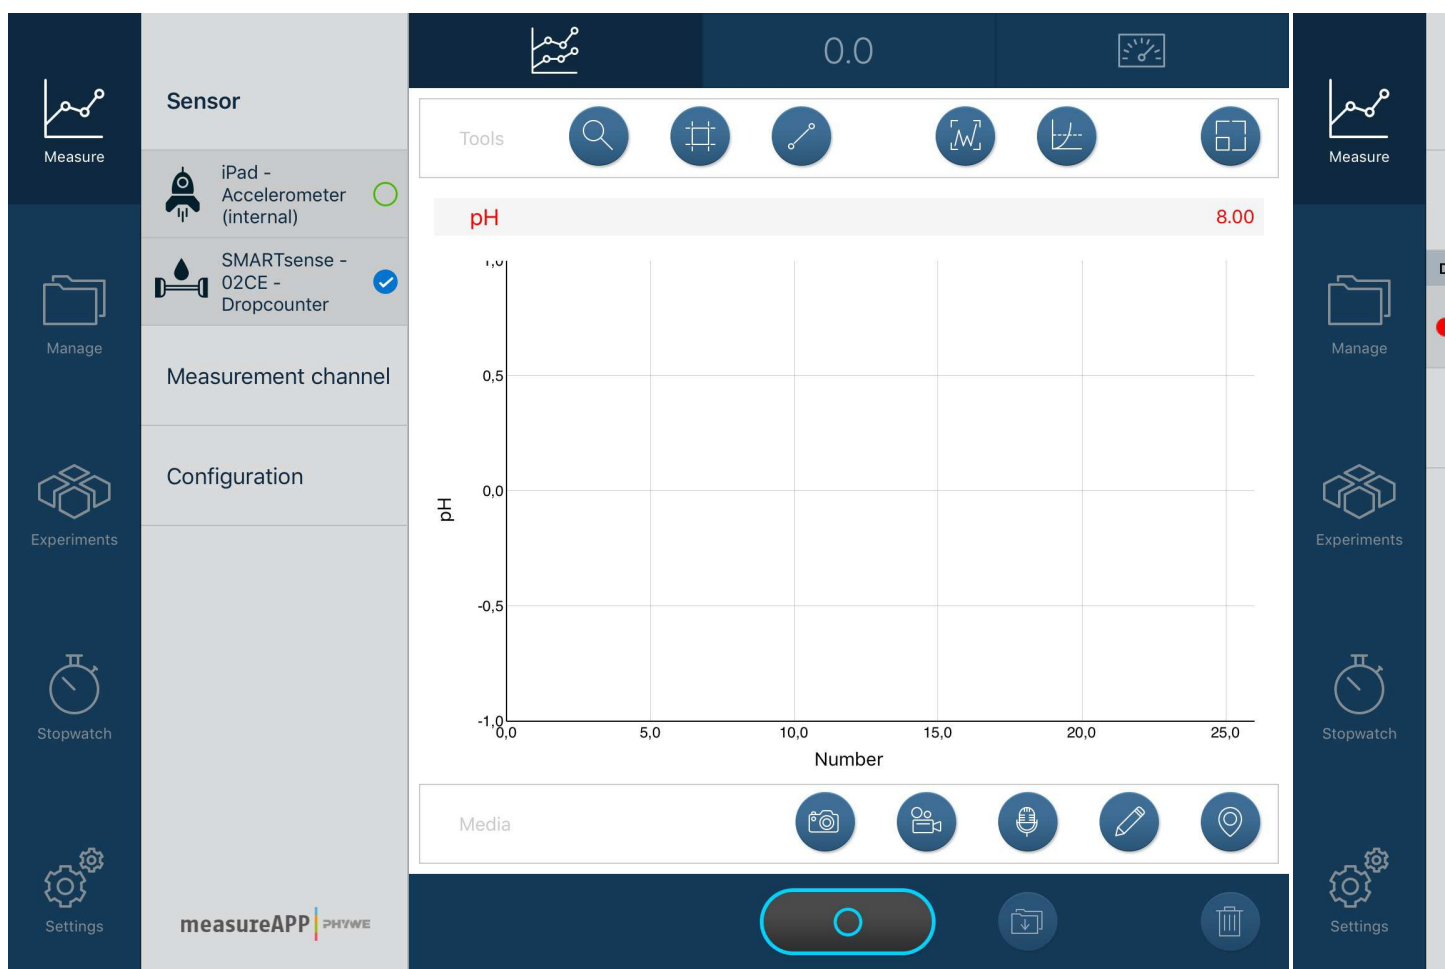

Fig. 1
- Ensure Bluetooth is activated on your device. Open the PHYWE measure App  and select the sensor "Dropcounter" (Fig. 1) and the measurement channel 'pH' (Fig. 2).